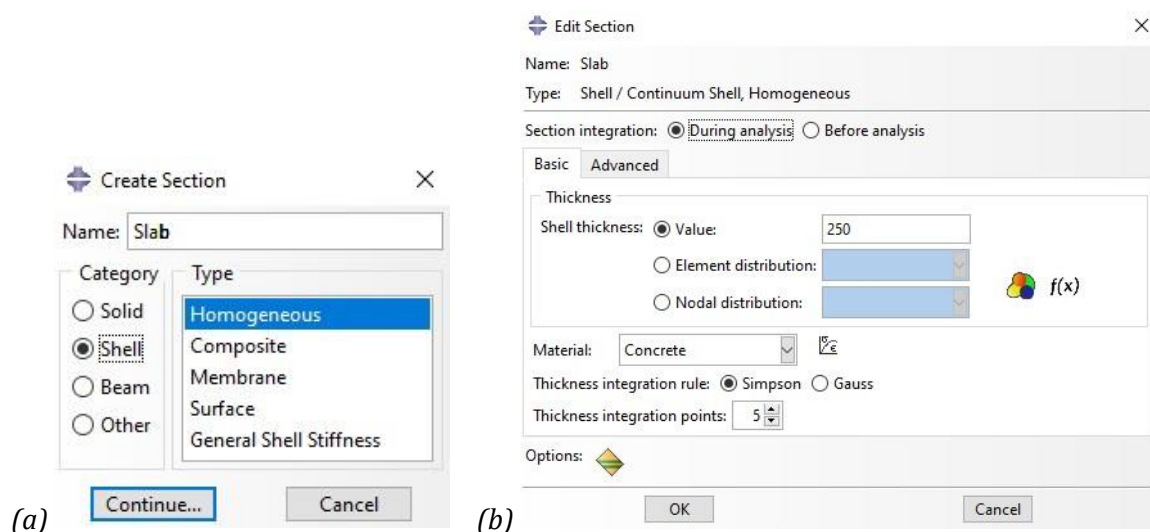

Figure 1-2 – (a) The Create Section dialog box and (b) the Edit Section dialog box.
- Create a **Homogeneous Shell Section** named **Slab**. Make sure to select **Shell** in **Category**. See Figure 1-2(a). Click on **Continue**.
- In the **Edit Section** dialog box, input a **Shell thickness** value of **250**. See Figure 1-2(b). Click on **OK**.